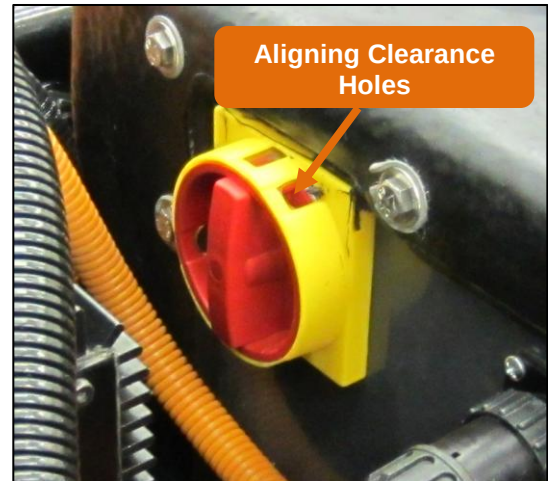

Figure 2.5
4. The High Voltage Isolator switches are equipped with aligning clearance holes designed for the ability to lock the switches in their ISOLATED (VERTICAL) positions. Follow normal “lock-out, tag-out” practices. (Figure 2.5).